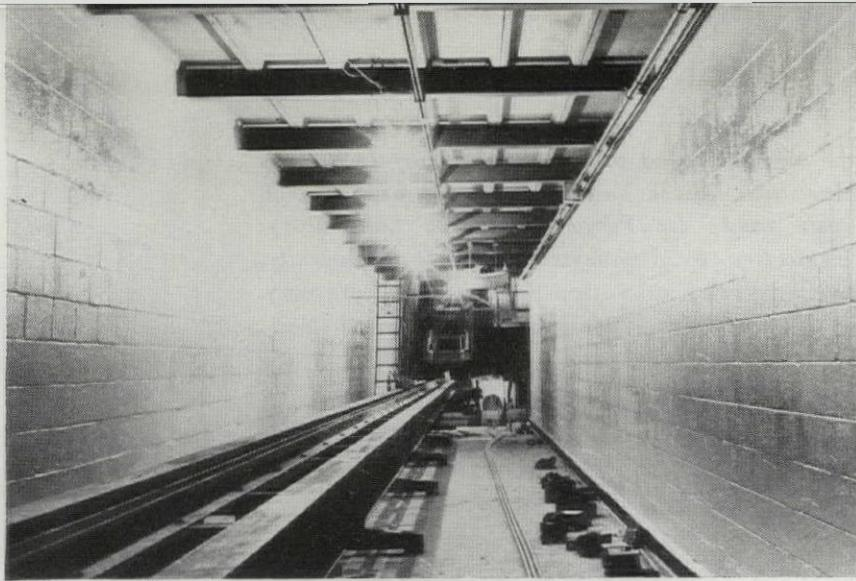

Figure 5—Epoxy coatings provide sanitary finishes for walls subjected to frequent washing. Illustrated (left) is hog-kill section of meat-packing plant.
- c Sanitary finishes of buildings subjected to frequent washing (*Figure 5*).